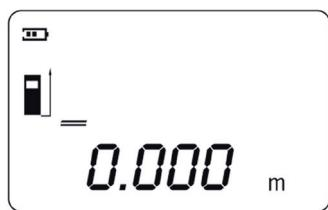

Fig. 4
1. Press the Power button (1) to switch on the device; it will default to the single distance measurement mode (fig. 4).